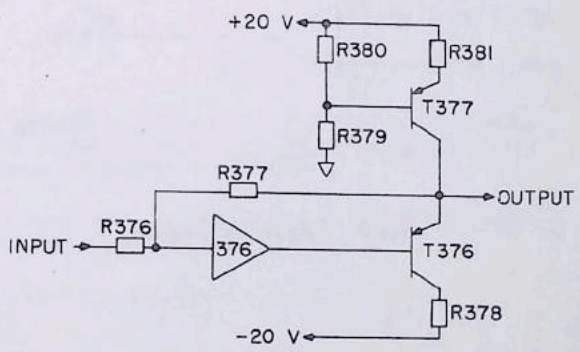

Fig. 1. High-power amplifier connected for typical power-boosting application
1. The high-power amplifier, when connected as shown in Fig. 1, provides unity gain with an inversion. The output of the function that requires power boost is connected to the input on resistor
2. If the rated output of a function is other than 10 volts, an external input resistor is used, selected at $1K/\text{max volt}$. An external feedback or gain resistor of the desired value is also used. The simplified diagram for this application of the high-power universal amplifier is the same as Fig. 1 except that resistors R376 and R377 are replaced by external resistors.